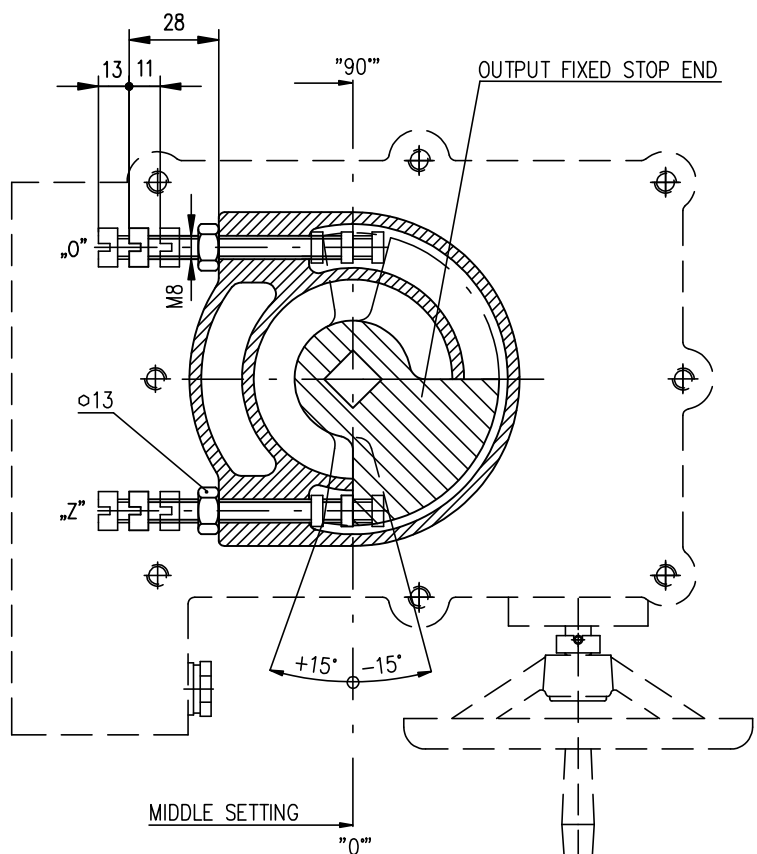

Fig. 7
4.6.2 Setting of stop end screws at torque switching-off (Fig.7)